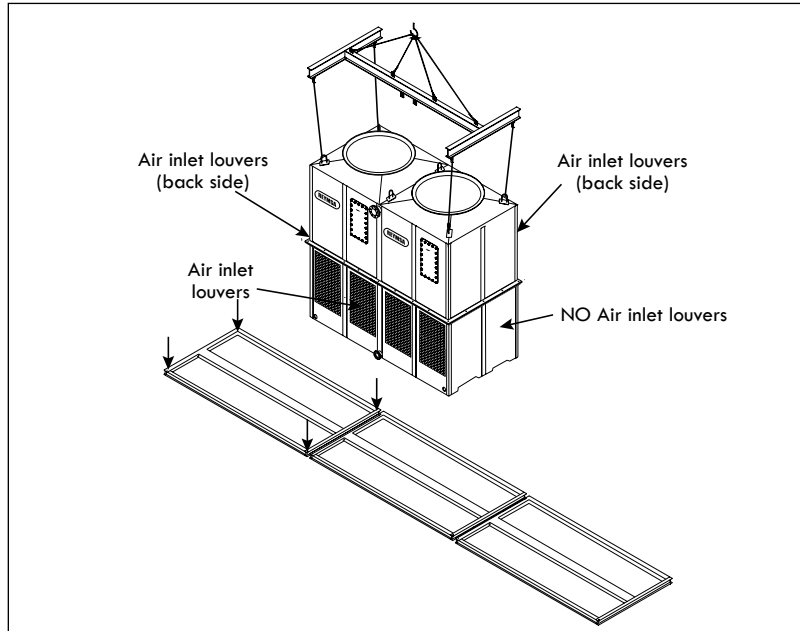

Figure A-69: S-Orientation - First T1 module lifting and installation (RTM-B-S or RTPM-B-S)
- A.** Lift the first module using a crane and a spreader bar and place it on top of the isolation pad and the steel base structure. Secure it with the galvanized steel nut and bolts sets (supplied by others) as shown on Figure A-69.